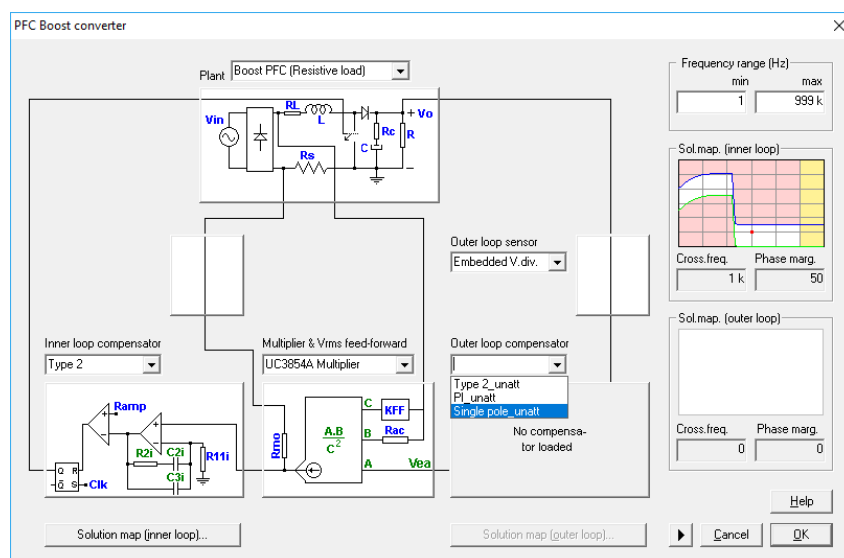

Figure 15: Outer loop compensator choice
2. Select the voltage regulator. See Figure 15